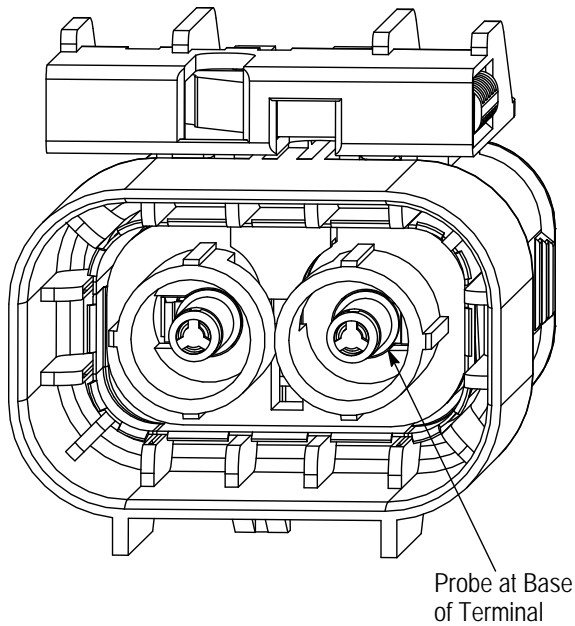

Figure 23
*Avoid probing the terminal in an area that could damage the plating on the pin terminal. The best location for probing the pin terminal is at the base of the pin terminal as shown in Figure 23.*